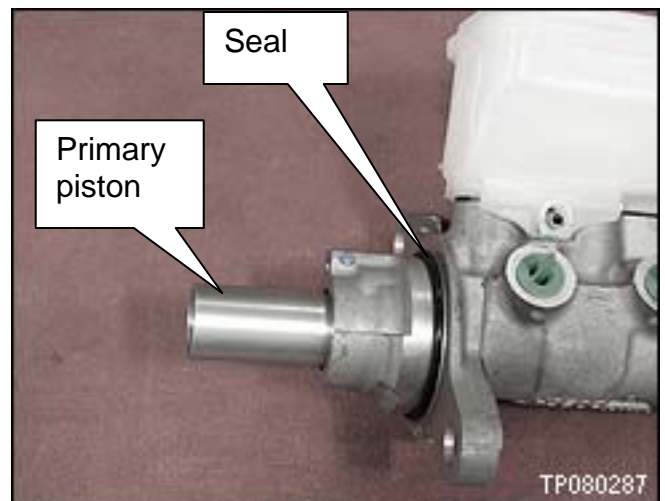

Figure 16
- Make sure the brake master cylinder to booster seal is in place and fully seated as shown in Figure 16.